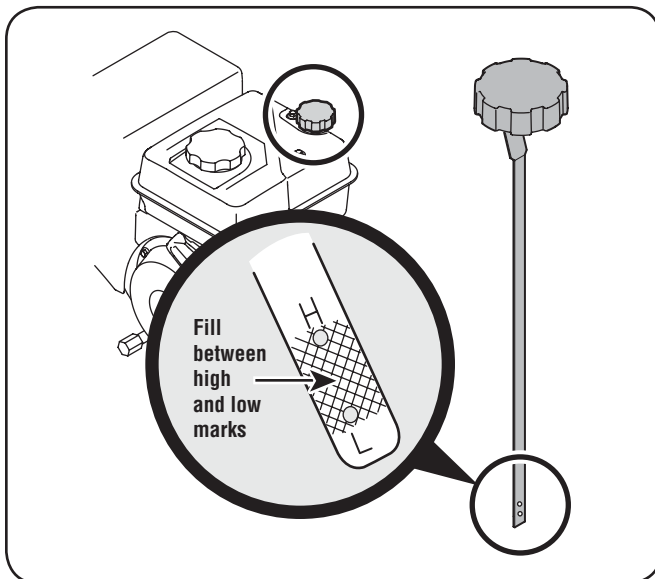

Figure 3-3
- Keep oil level between the high (H) and low (L) marks on dipstick. See Fig. 3-3.
1. Remove the oil filler cap/dipstick and wipe the dipstick clean. See Fig. 3-3.
3. Remove the oil filler cap/dipstick. If the level is low, slowly add oil until oil level registers between high (H) and low (L), Fig. 3-3.